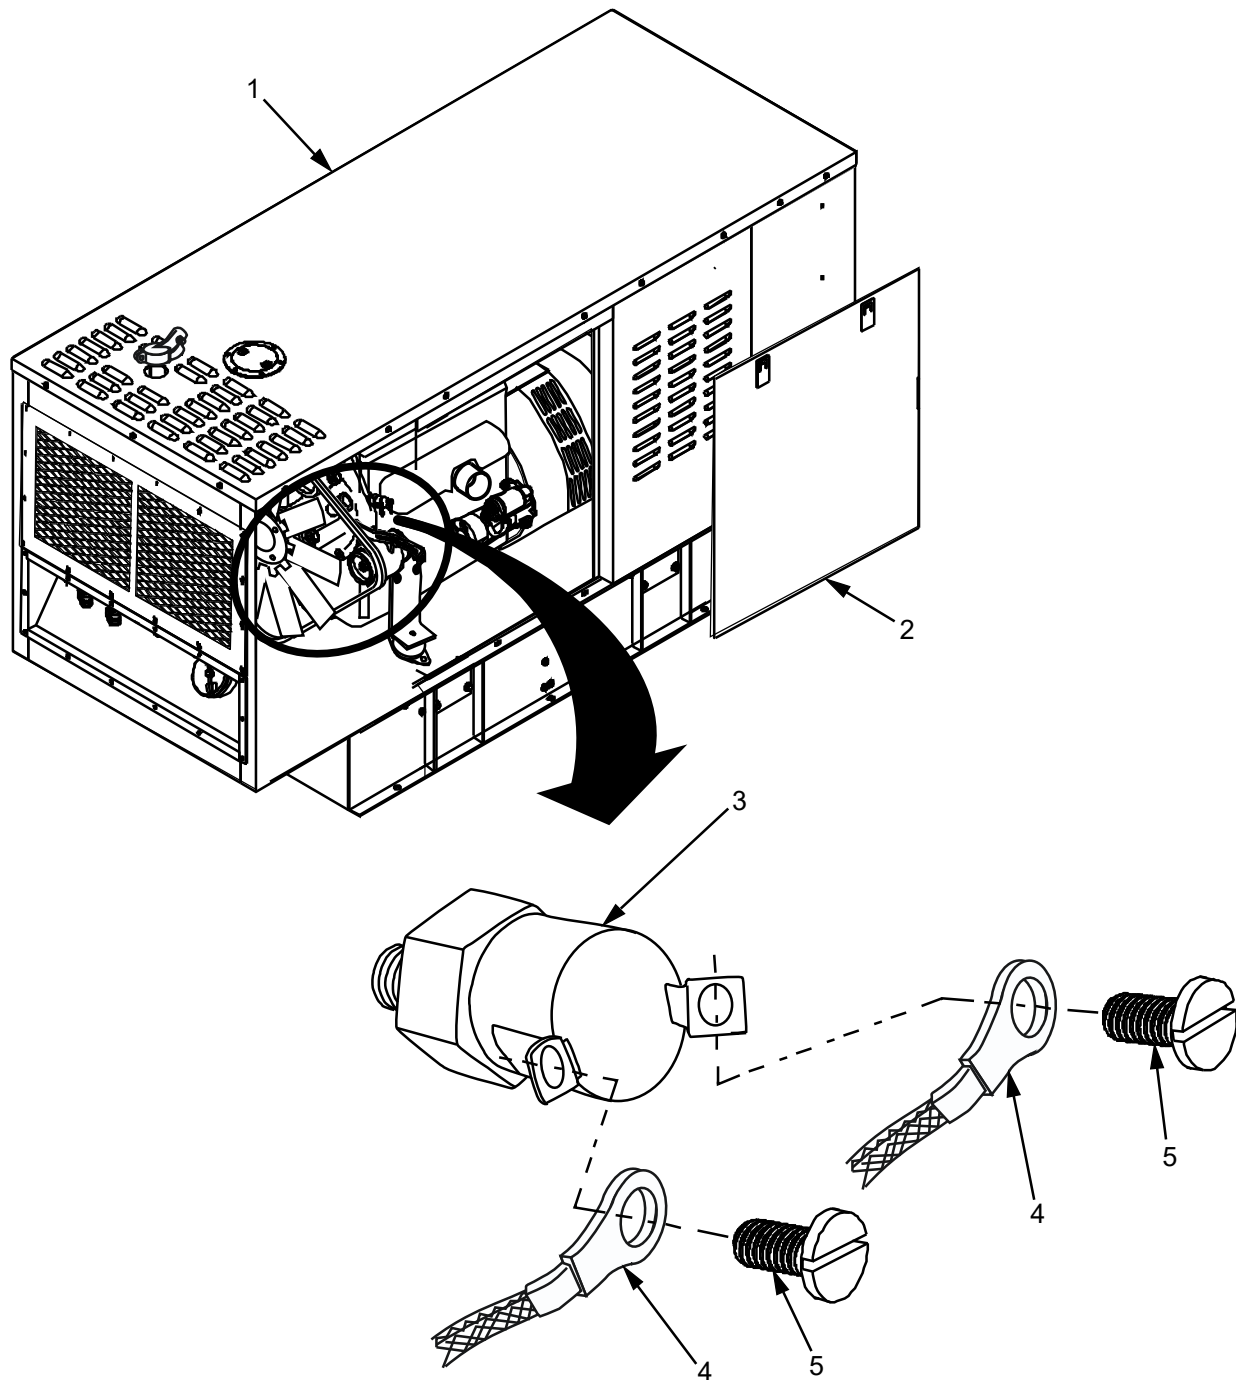

Figure 1. Coolant high temperature cutoff switch- Replace.
1. Apply Tape, Antisiezing to threads of coolant high temperature cutoff switch (Figure 1, Item 3).
When the following step is being performed, do not force coolant high temperature cutoff switch (Figure 1, Item 3) or cross thread. Failure to observe this caution can result in damage to the engine.
2. Install coolant high temperature cutoff switch (Figure 1, Item 3) onto mounting elbow and hand tighten.
3. Using torque wrench, tighten coolant high temperature cutoff switch (Figure 1, Item 3) to 9~13 ft./lb (12~18 n-m/1.2~1.8 kgf-m).
Prior to performing the following step, inspect terminal lugs (Figure 1, Item 4) and terminals for connectivity. Ensure that terminal lug has not become brittle and that there are no nicks, cuts or other damage to terminal lug. If damage is noted, refer to WP 0081 for wiring repairs.
4. Secure two terminal lugs (Figure 1, Item 4) to coolant high temperature cutoff switch (Figure 1, Item 3) with two screws (Figure 1, Item 5).
6. Install front access panel (Figure 1, Item 2).
8. Start Genset (Figure 1, Item 1) in accordance with WP 0005, Genset Start Procedure.